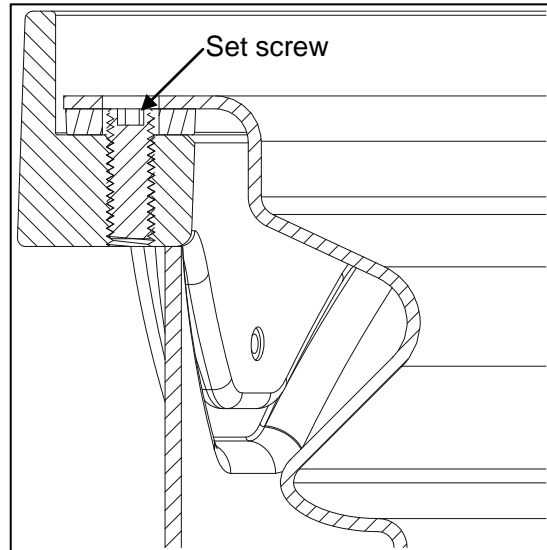

Figure 2
Step 4: (See Figure 2)
Step 5: (See Figure 2)